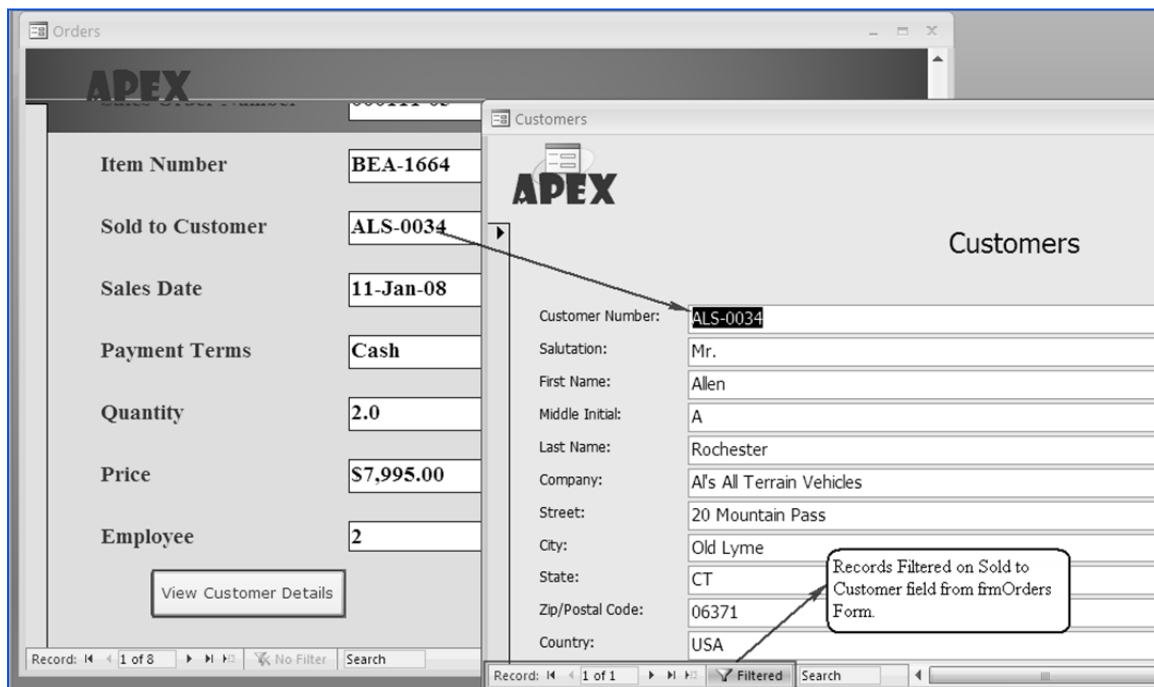

Fig. 4.2.27: Customer Records restricted by Orders form.
10. To check the *macro*, open the *frmOrders* form in *Form View* and click the *View Customer Details* button. This should display the *frmCustomers* form only with the record of current customer, as indicated in Fig. 4.2.27.